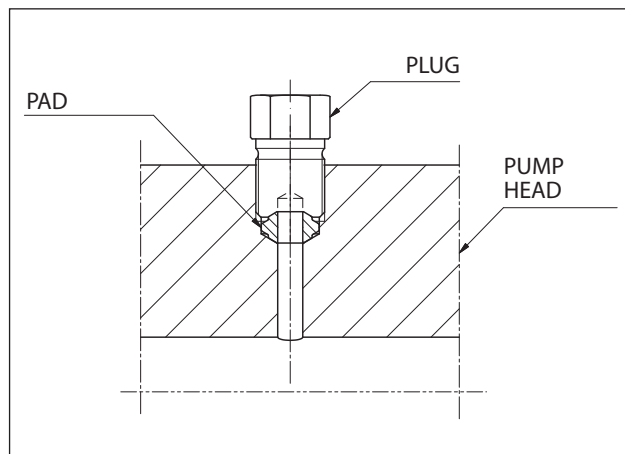
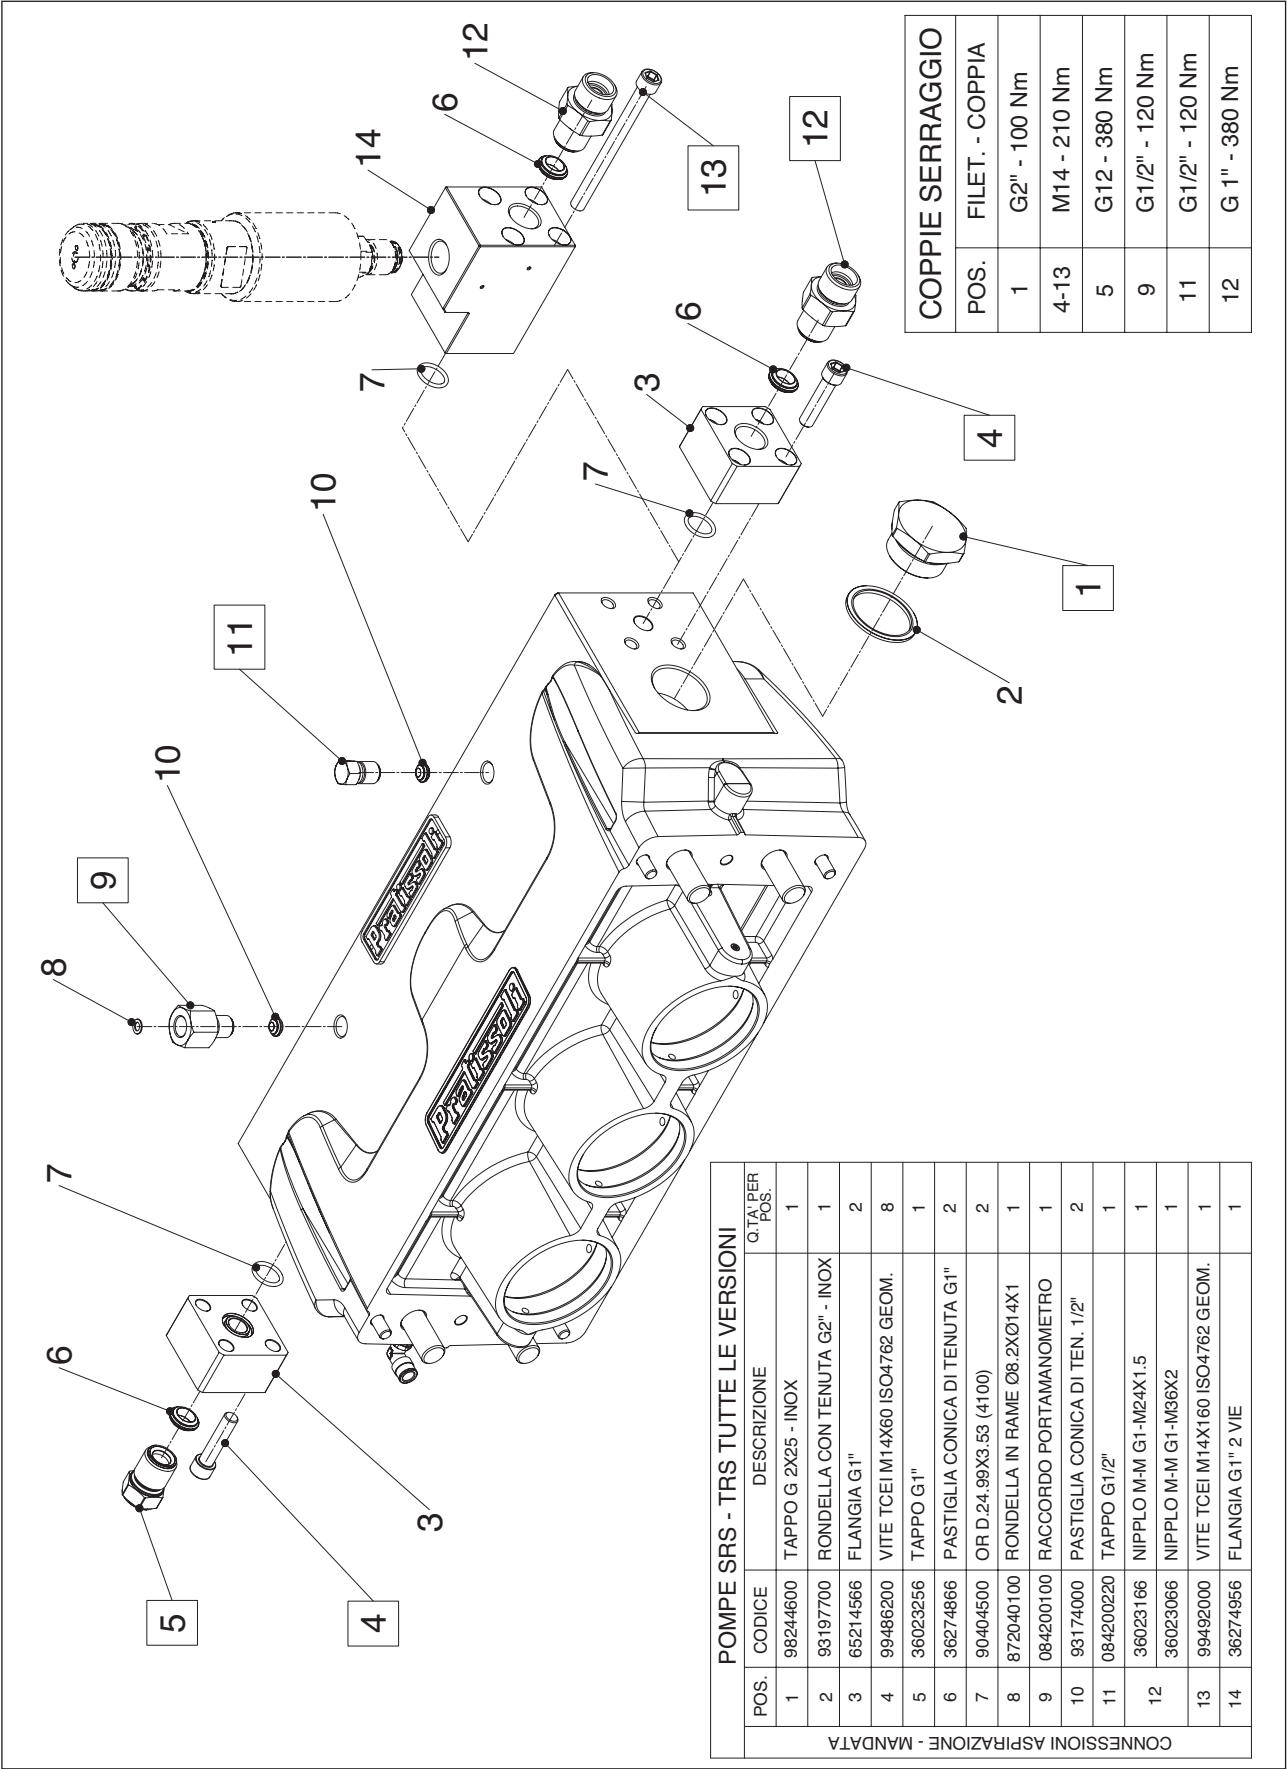

Fig. 7
Fig. 8
- 1) 2 inlet ports ("IN"): G2", see "SRS-TRS H.P. INLET/OUTLET CONNECTION" CODE 65951500 (Fig. 8).
- 2) 2 Ø19mm outlet ports ("OUT"), see SRS-TRS H.P. INLET/OUTLET CONNECTION" CODE 65951500 (Fig. 8).
SRS-TRS pumps are equipped with 4 conical steel pads to be used in correspondence with the pump's outlet ports (see Fig. 7) or in the optional fitting flanges. The function of the pads is to guarantee pressure-tightness of the connection. The seat of the pump's outlet port is already machined in order to hold the conical pad; if it is necessary to make the connection for the outlet fitting or the closing plug, the connections must be specially machined as shown in Fig. 8.
For the composition of inlet and outlet flanges refer to "SRS-TRS H.P. INLET/OUTLET CONNECTION" (Fig. 8).